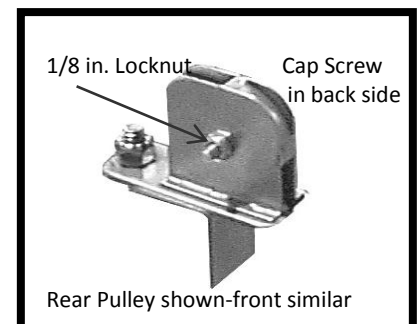

Figure 73: Pulley Assembly
2. With a flat-blade screwdriver and a 3/8 in. wrench, remove the cap screw and locknut holding the wheel in the pulley assembly (Figure 73).